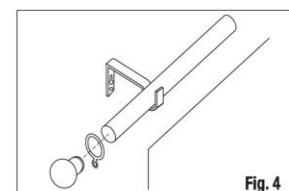

Fig. 4
7. Remember to position a ring between the brackets and the finial (Fig. 4).